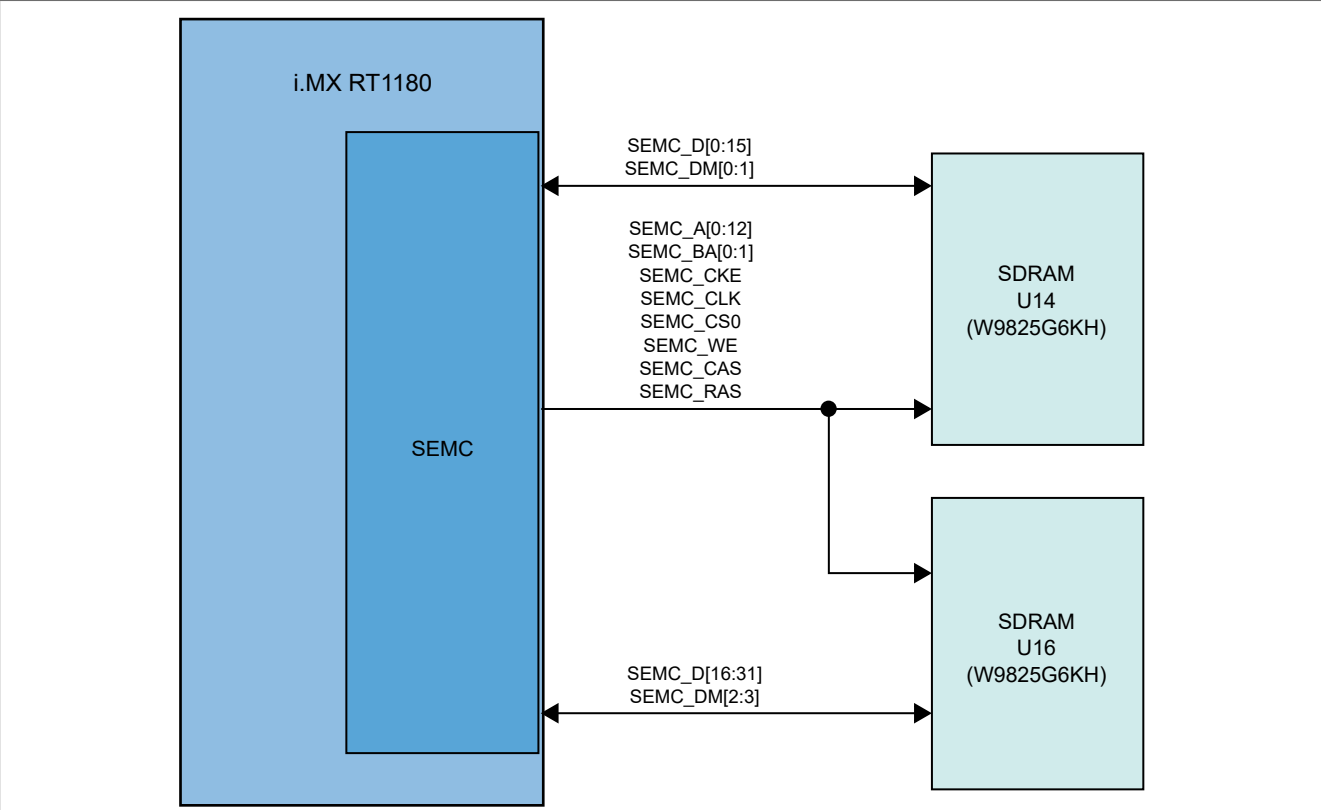

Figure 7. SEMC connections on MIMXRT1180-EVK
- By default, the SDRAM is disabled and HyperRAM (U15) is enabled. To enable SDRAM function, resistor reconfiguration must be performed as described in Section 4.1 "SDRAM interface hardware rework". Figure 7 illustrates the SEMC connections on MIMXRT1180-EVK. The SDRAM devices are described in Table 13.